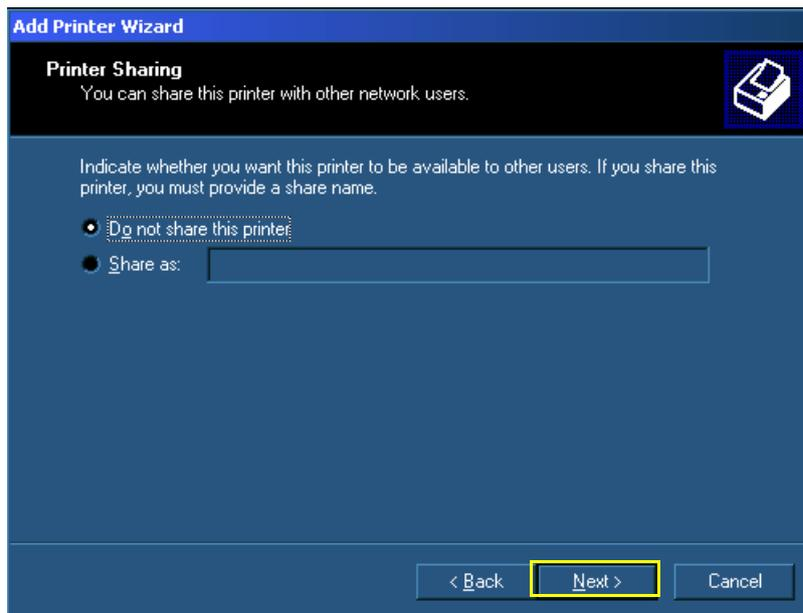

Figure 8-143 Printer Sharing Message
18.)When the following message appears, verify that **Do not share this printer** is selected, as shown in Figure 8-143.